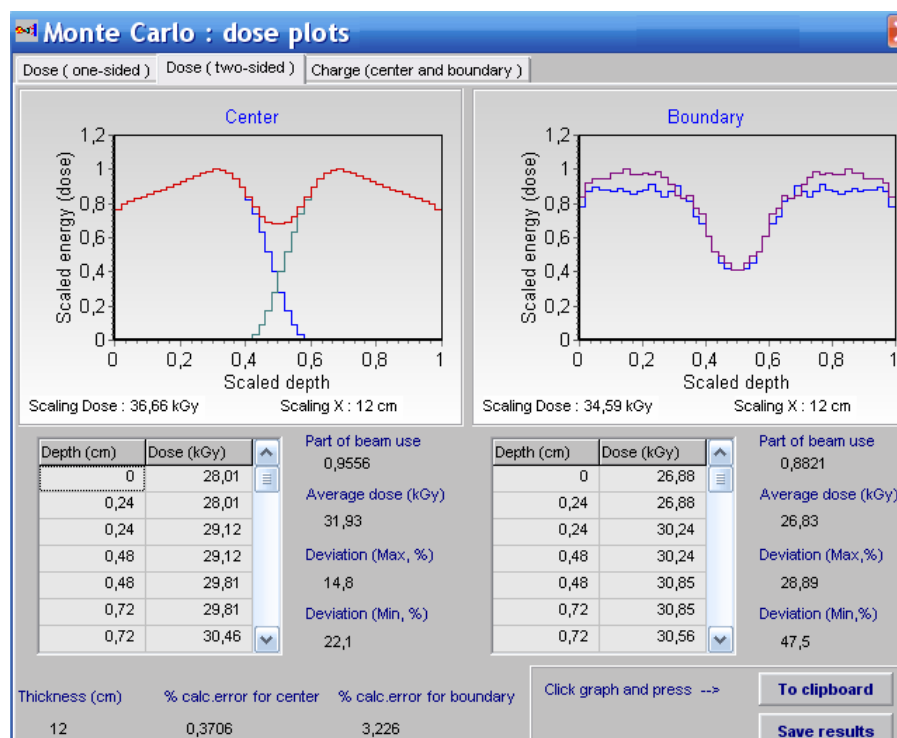
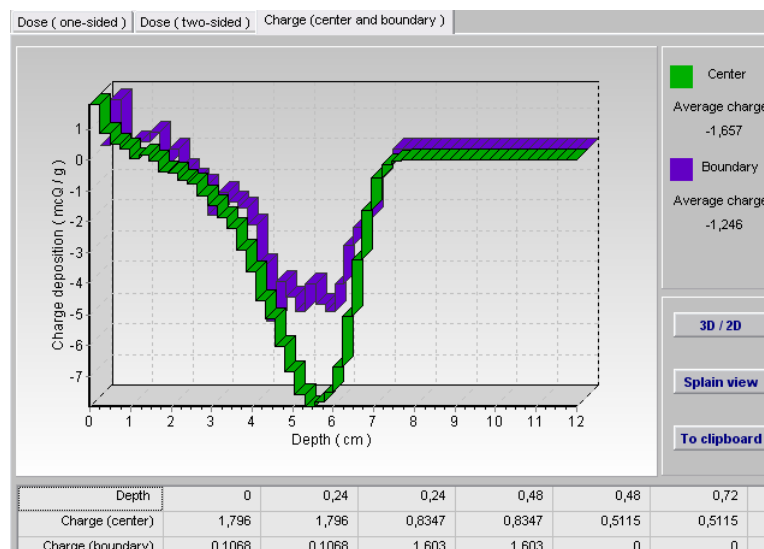
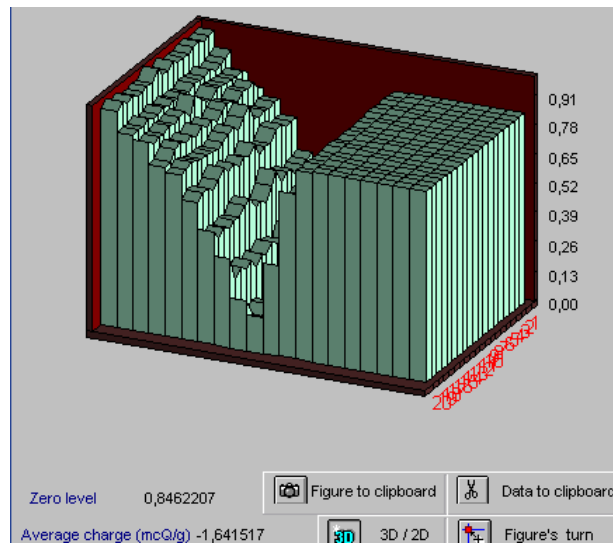

Fig.12. 2D view of the absorbed dose distributions under two-sided irradiated target with package in graphical and tabular forms.
Fig.14. 2D charge depositions in irradiated target.
Fig.15. **3D view of charge deposition** in **irradiated object**.
- Select “**2D graphing**” - The form “**Dose plots**” after **MC simulation** for analysis of the **2D absorbed dose and charge distributions** for irradiated target with package **under one/two-sided** in graphical and tabular forms will be opened (see Fig.12).
- Click on Charge in the frame “Dose and charge distribution” (see Fig.12), the frame with 2D charge deposition in graphical and tabular forms for irradiated target will be opened (see Fig.14).
- Click the button “**Splain view**” in the frame “**2D charge distributions**” (see Fig.14), the frame with **3D view of charge distribution** in graphical and tabular forms for **irradiated object** will be opened (see Fig.15).